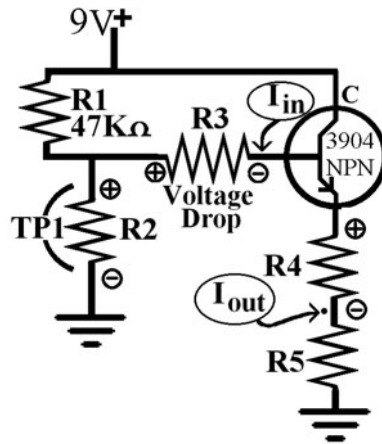

Figure L51-2
4. In Figure L51-2, R4 and R5 make a voltage divider. Measuring the voltage drop across R4 makes it an easy task to calculate the current available at the emitter (output).